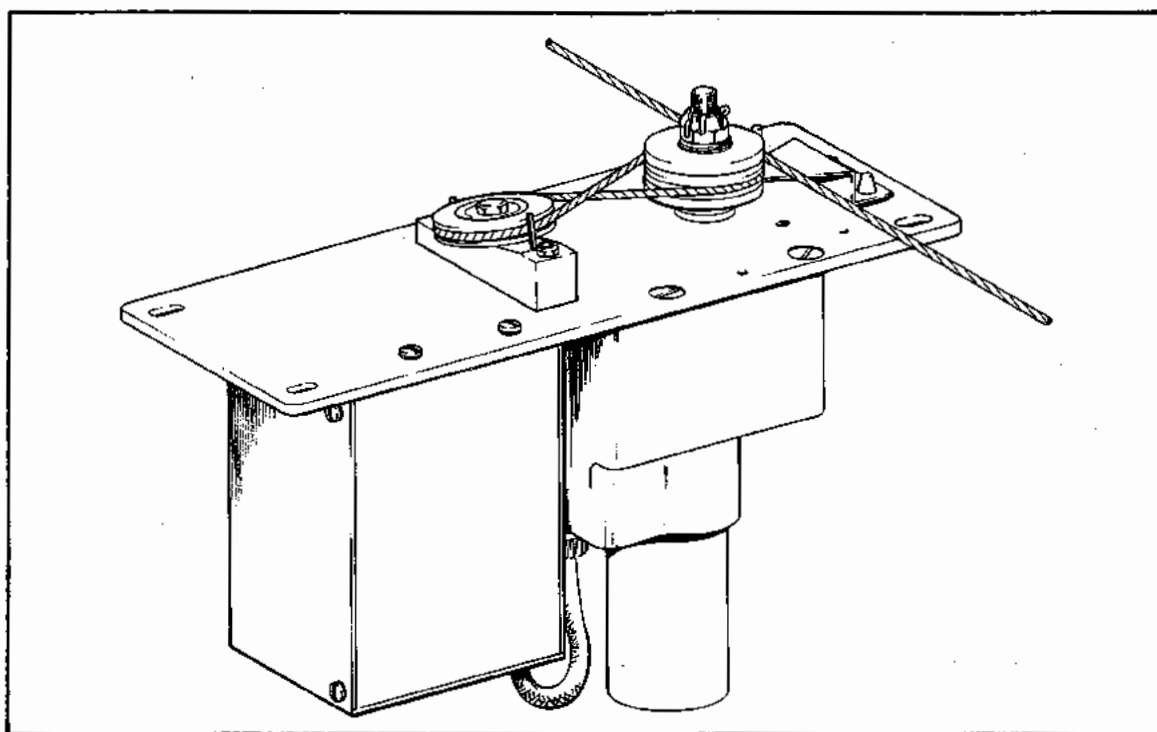

Figure 21-3. PA-23-250 Trim Servo Cable Routing
21-3 INSTALLATION OF TRIM SERVO. PA-23-250 (Six Place). (Refer to Figure 21-3.)
**21-5. INSTALLATION OF TRIM AMPLIFIER ON 1C345-5 AND/OR 1C469-5 TRIM SERVO. PA-23-250 (Six Place). (Refer to Figure 21-3.)**